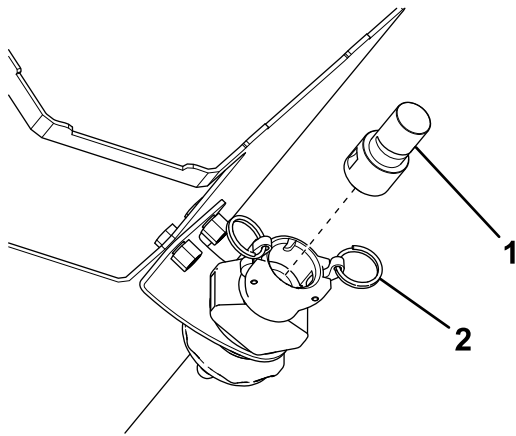

Figure 55
- Raise the latches on the quick coupler and remove the spray nozzle (Figure 55).
13. Slide the spray nozzle into the quick coupler and lower the latches to lock it in place (Figure 55).